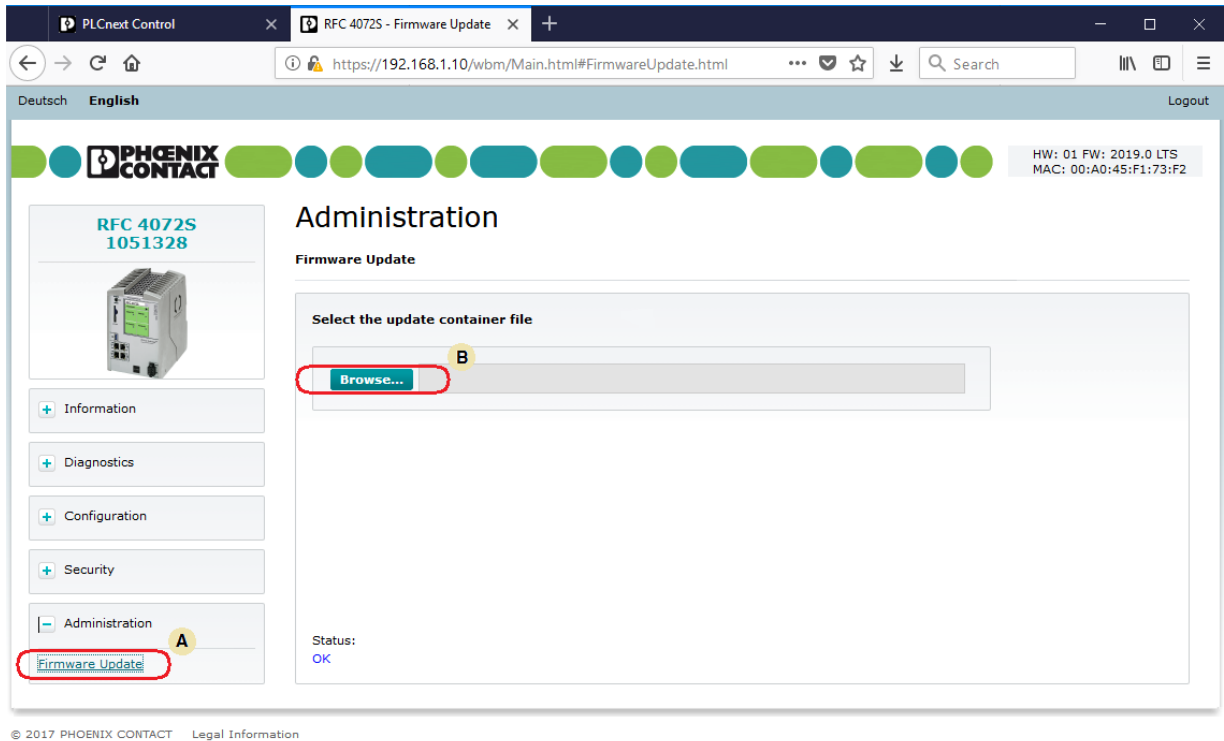

Figure 9-21 WBM: Administration – Firmware Update
- In the “Administration” area, click on “Firmware Update” (A in Figure 9-21).
- Click on the “Browse” button (B in Figure 9-21) and follow the further instructions.